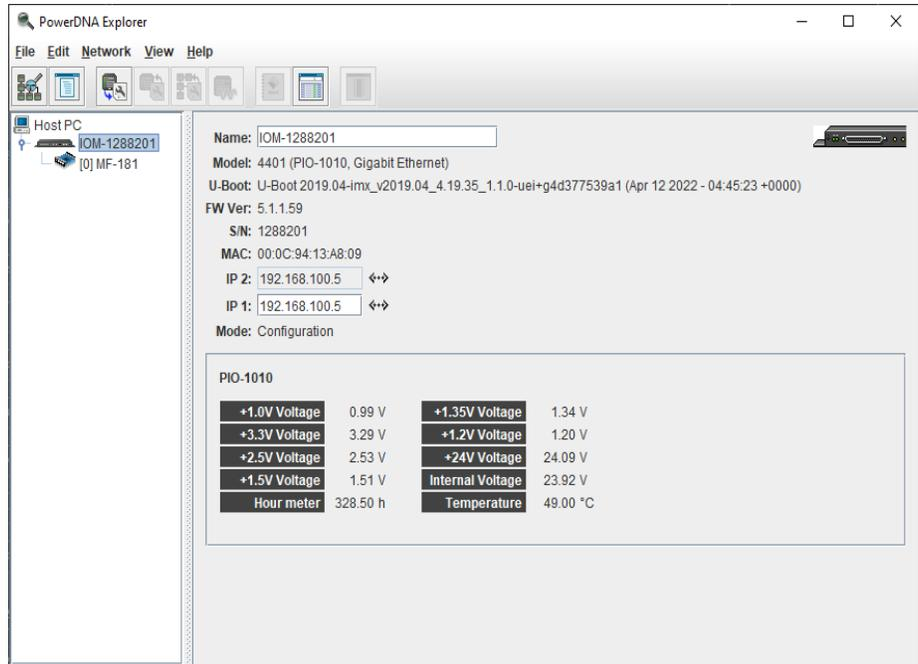

Figure 5-1 UEI-PIO-1010 CPU Module Panel
5.4 Displaying CPU Module Diagnostics When you click on an IOM name in the left-hand “Device Tree panel”, the right-hand “Settings” panel displays information about the system’s CPU board. Example data is shown in **Figure 5-1** and described in **Table 5-1**.